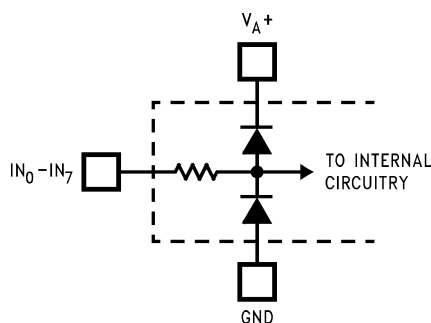

Figure 3.
- (1) Two on-chip diodes are tied to each analog input through a series resistor, as shown below. Input voltage magnitude up to 5V above V_{A+} or 5V below GND will not damage the LM12L458. However, errors in the A/D conversion can occur if these diodes are forward biased by more than 100 mV. As an example, if V_{A+} is 3.0 V_{DC} , full-scale input voltage must be $\approx 3.1 V_{DC}$ to ensure accurate conversions. See Figure 3
- (2) V_{A+} and V_{D+} must be connected together to the same power supply voltage and bypassed with separate capacitors at each V^+ pin to assure conversion/comparison accuracy.
- (3) Accuracy is ensured when operating at $f_{CLK} = 6\text{ MHz}$.
- (4) With the test condition for $V_{REF} = V_{REF+} - V_{REF-}$ given as +2.5V, the 12-bit LSB is 305 μV and the 8-bit/"Watchdog" LSB is 4.88 mV.
- (5) Typical figures are at $T_A = 25^\circ C$ and represent most likely parametric norm.
- (6) Limits are specified to AOQL (Average Output Quality Level).
- (4) Typical figures are at $T_A = 25^\circ\text{C}$ and represent most likely parametric norm.
- (5) Limits are specified to AOQL (Average Output Quality Level).
- Two on-chip diodes are tied to each analog input through a series resistor, as shown below. Input voltage magnitude up to 5V above V_{A+} or 5V below GND will not damage the LM12L458. However, errors in the A/D conversion can occur if these diodes are forward biased by more than 100 mV. As an example, if V_{A+} is 3.0 V_{DC} , full-scale input voltage must be $\approx 3.1 V_{DC}$ to ensure accurate conversions. See Figure 3